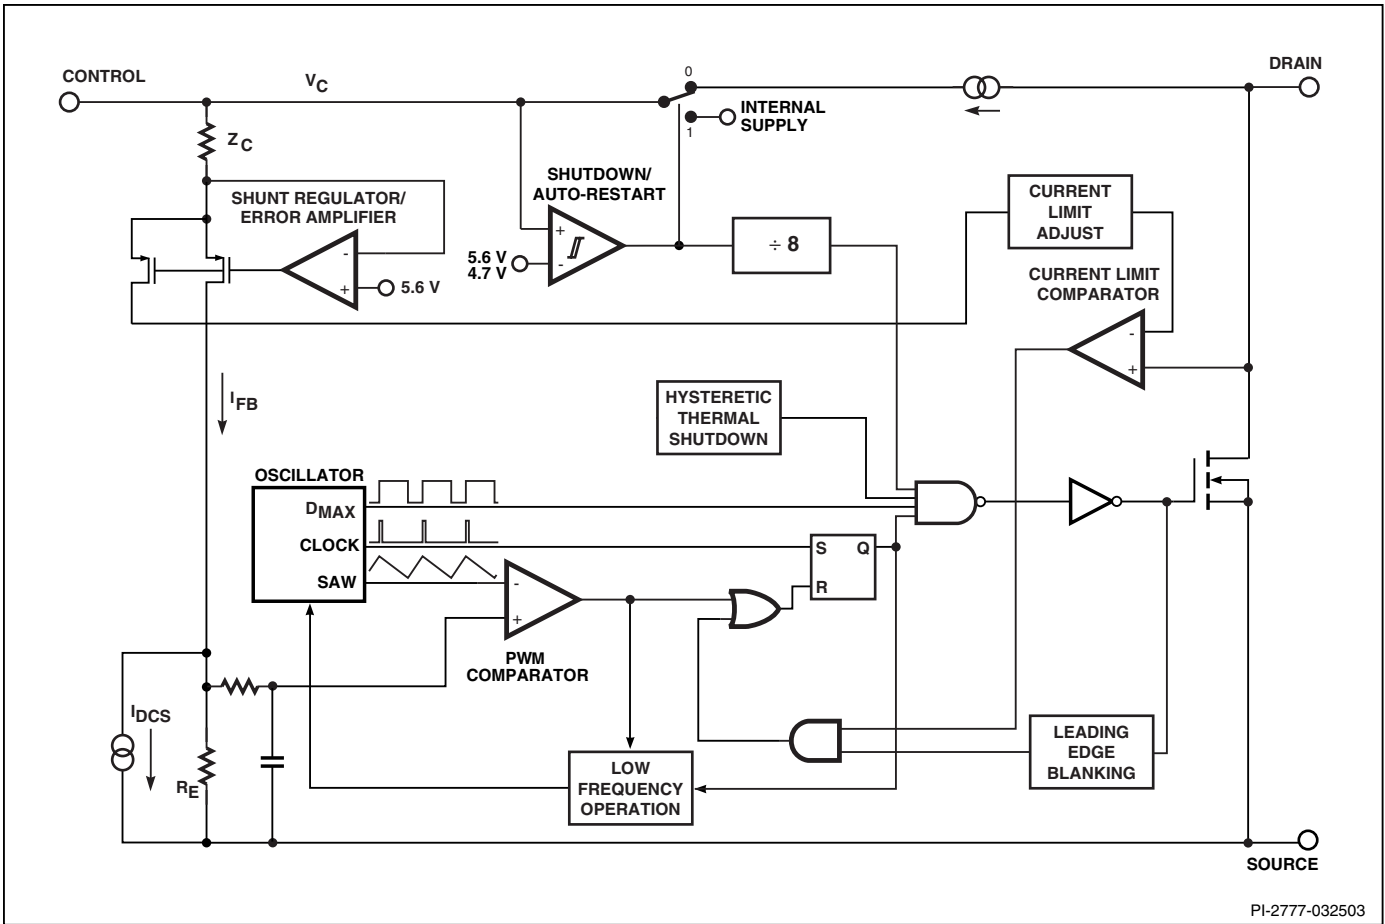
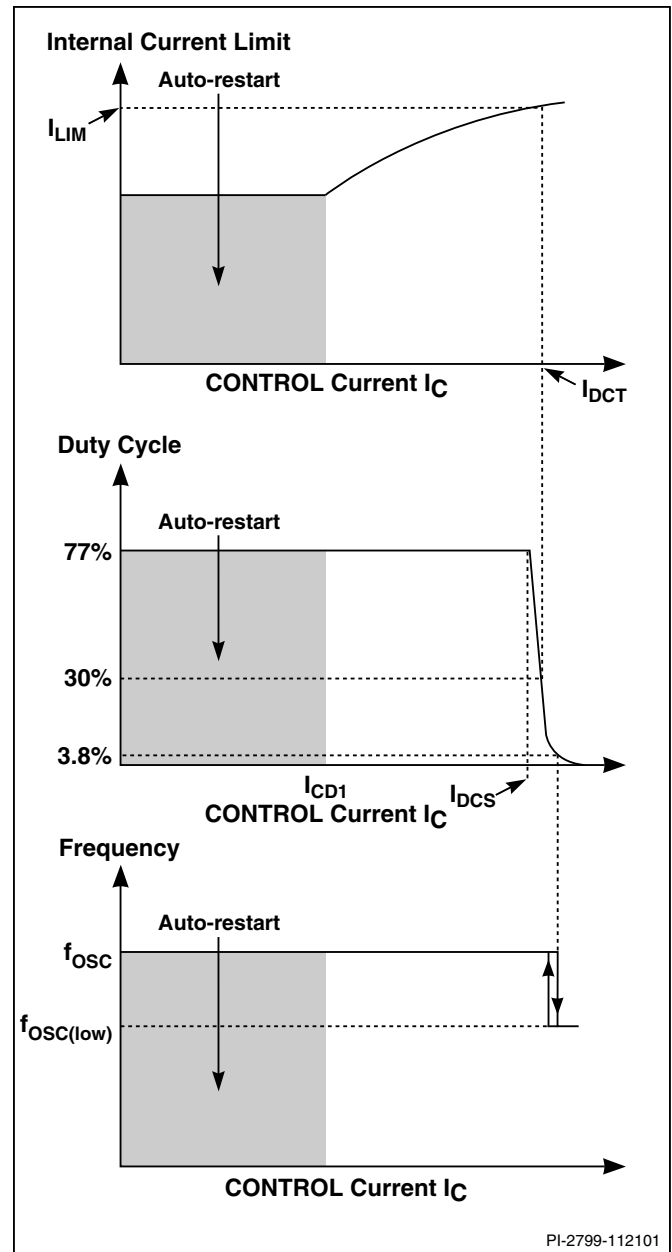
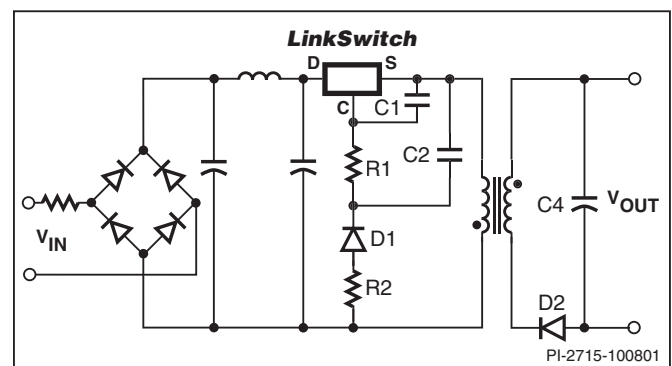
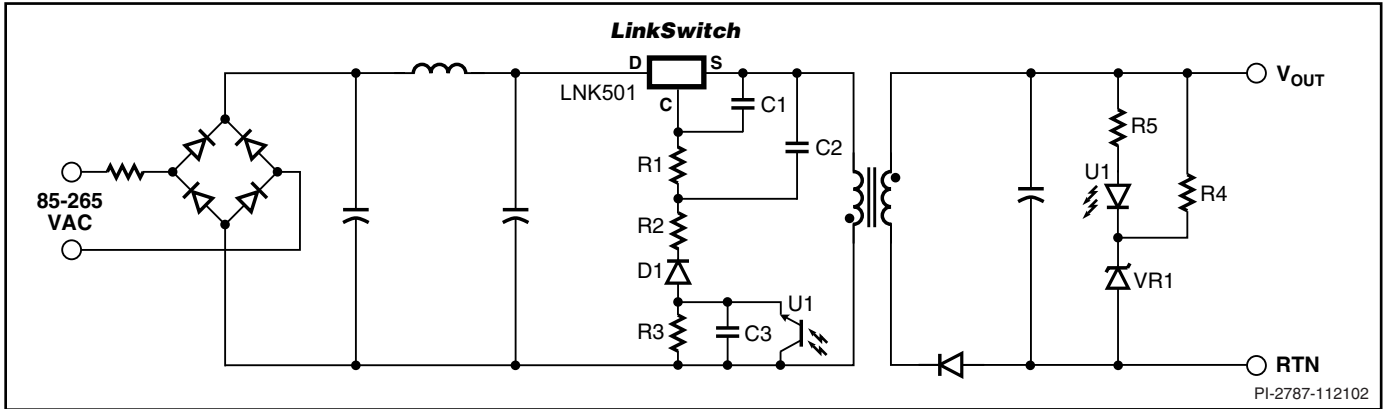

Figure 2. Block Diagram.
Figure 4. CONTROL Characteristics.
Figure 5. Power Supply Outline Schematic.
Figure 6. Power Supply Outline Schematic with Optocoupler Feedback.
The duty cycle, current limit and operating frequency relationships with CONTROL pin current are shown in Figure 4. Figure 5 shows a typical power supply outline schematic which is used below to describe the LinkSwitch operation.
During power up, as V_{IN} is first applied (Figure 5), the CONTROL pin capacitor C1 is charged through a switched high voltage current source connected internally between the DRAIN and CONTROL pins (see Figure 2). When the CONTROL pin voltage reaches approximately 5.6 V relative to the SOURCE pin, the high voltage current source is turned off, the internal control circuitry is activated and the high voltage internal MOSFET starts to switch. At this point, the charge stored on C1 is used to supply the internal consumption of the chip.
As the output voltage, and therefore the reflected voltage across the primary transformer winding ramp up, the feedback CONTROL current I_C increases. As shown in Figure 4, the internal current limit increases with I_C and reaches I_{LIM} when I_C is equal to I_{DCT} . The internal current limit vs. I_C characteristic is designed to provide an approximately constant power supply output current as the power supply output voltage rises.
When I_C exceeds I_{DCS} , typically 2 mA (Figure 4), the maximum duty cycle is reduced. At a value of I_C that depends on power supply input voltage, the duty cycle control limits LinkSwitch peak current below the internal current limit value. At this point the power supply transitions from CC to CV operation. With minimum input voltage in a typical universal input design, this transition occurs at approximately 30% duty cycle. Resistor R1 (Figure 5) is therefore initially selected to conduct a value of I_C approximately equal to I_{DCT} when V_{OUT} is at the desired value at the minimum power supply input voltage. The final choice of R1 is made when the rest of the circuit design is complete. When the duty cycle drops below approximately 4%, the frequency is reduced, which reduces energy consumption under light load conditions.
Figure 6 shows a typical power supply outline schematic using LinkSwitch with optocoupler feedback to improve output voltage regulation. On the primary side, the schematic differs from Figure 5 by the addition of R3, C3 and optocoupler U1.
The feedback configuration in Figure 6 is simply a resistive divider made up of R1 and R3 with D1, R2, C1 and C2 rectifying, filtering and smoothing the primary winding voltage signal. The optocoupler therefore effectively adjusts the resistor divider ratio to control the DC voltage across R1 and therefore, the feedback current received by the LinkSwitch CONTROL pin.
When the power supply operates in the constant current (CC) region, for example when charging a battery, the output voltage is below the voltage feedback threshold defined by U1 and VR1 and the optocoupler is fully off. In this region, the circuit behaves exactly as previously described with reference to Figure 5 where the reflected voltage increases with increasing output voltage and the LinkSwitch internal current limit is adjusted to provide an approximate CC output characteristic. Note that for similar output characteristics in the CC region, the value of R1 in Figure 5 will be equal to the value of R1 + R3 in Figure 6.
When the output reaches the voltage feedback threshold set by U1 and VR1, the optocoupler turns on. Any further increase in the power supply output voltage results in the U1 transistor current increasing, which increases the percentage of the reflected voltage appearing across R1. The resulting increase in the LinkSwitch CONTROL current reduces the duty cycle according to Figure 4 and therefore, maintains the output voltage regulation.
transistor voltage and dissipation ratings and should be fully tested before finalizing a design. The values of C2 and C3 are less important other than to make sure they are large enough to have very little influence on the impedance of the voltage division circuit set up by R1, R3 and U1 at the switching frequency. Normally, the values of C2 and C3 in Figure 6 are chosen equal to the value of C2 in Figure 5, though the voltage rating may be reduced depending on the relative values of R1 and R2 discussed above. See Applications section for typical values of components.
The output voltage load variation can be improved across the whole load range by adding an optocoupler and secondary reference (Figure 6). The secondary reference is designed to only provide feedback above the normal peak power point voltage to maintain the correct constant current characteristic.
The schematic shown in Figure 5 outlines the key components needed for a LinkSwitch supply.
Since the SOURCE pins in a LinkSwitch supply are switching nodes, the copper area connected to SOURCE together with C1, C2 and R1 (Figure 5) should be minimized, within the thermal constraints of the design, to reduce EMI coupling.